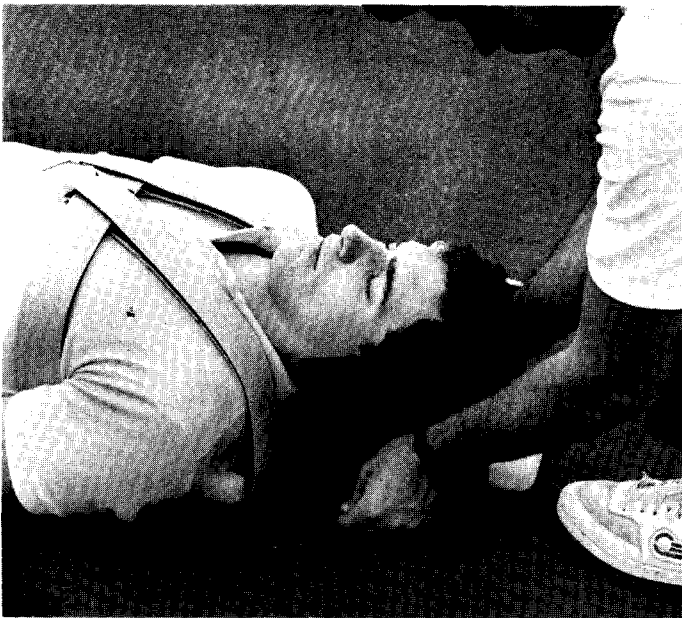
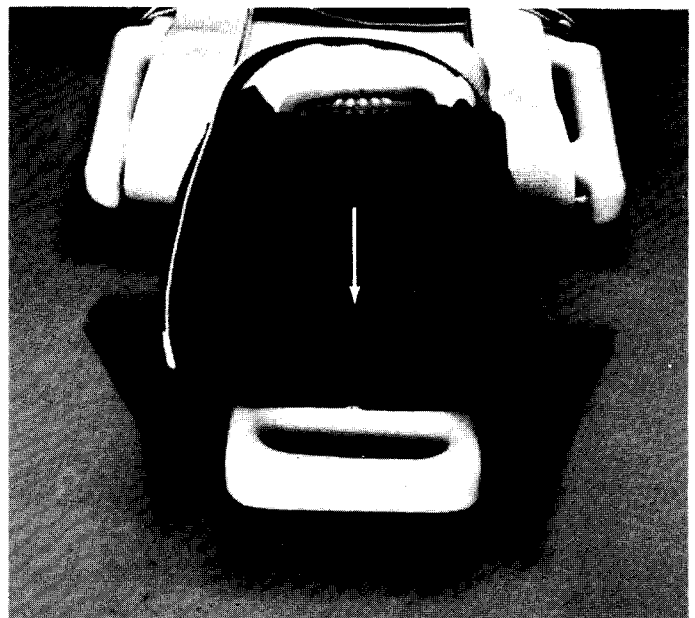

Figure 7.2
Figure 7.3
7.2 Hold the velcro™ fasteners out away from the body splint/litter. (Figure 7.2)
7.3 Rest the center foam rubber section against the top of the victim's head, and the bottom edge of the center section against the top surface of the Miller Full Body Splint/Litter. (Figure 7.2 and Figure 7.3)